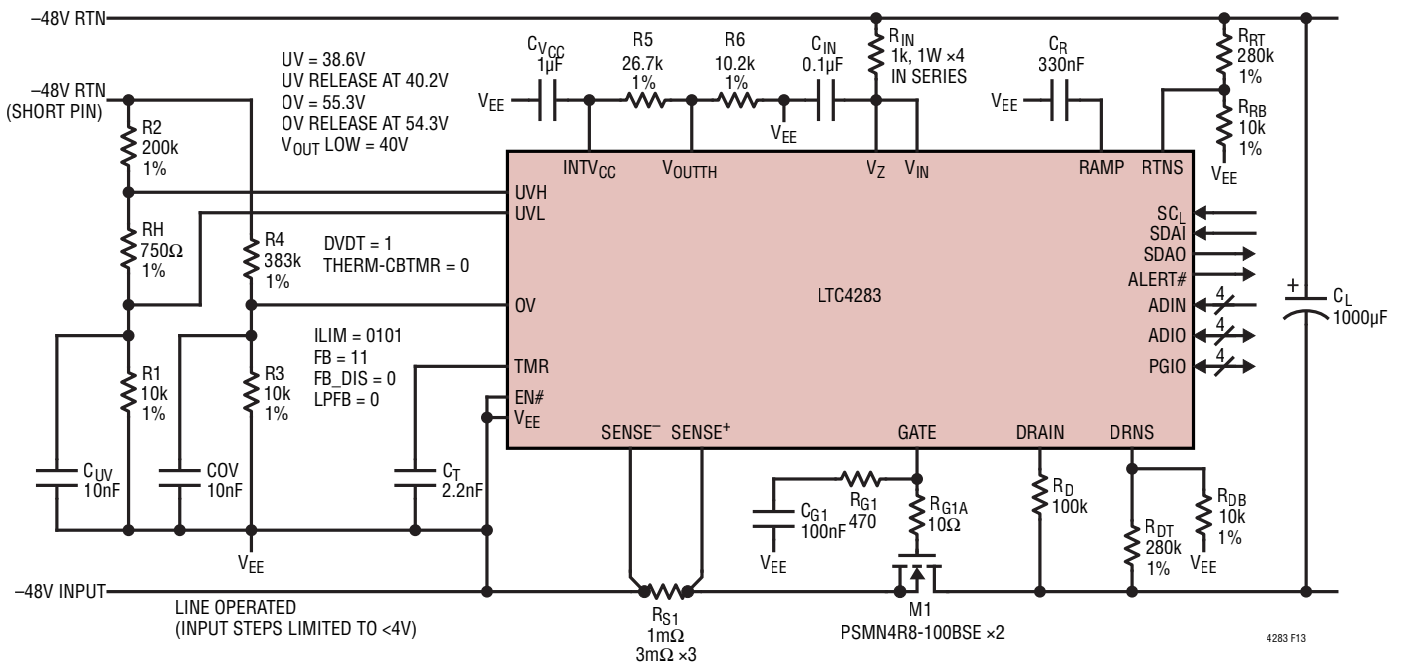

Figure 13. –48V/800W Hot Swap Controller with dV/dt Inrush Control
The second example is a line operated –48V system with supply tolerance of 10% (–43.2V to –52.8V) and maximum load power of 800W as shown in Figure 13. The load capacitance is specified as $C_L = 1000\mu\text{F}$.
voltage can be obtained with a resistive divider between INTV_{CC} (5V) and V_{EE}. The divider ratio is 5V/1.379V = 3.63. A divider of 26.7k and 10.2k as shown Figure 13 gives a close enough ratio of 3.62.
Although it is possible to use a single, four-resistor (or three-resistor if UVH and UVL connected together) divider as shown in Example 1, Step 7, two independent dividers with 2 (OV) or 2 to 3 (UV) resistors in each divider make it easier to make non-interactive changes at a later time. The two dividers as shown in Figure 13 gives UV shutdown at 38.6V, UV release at 40.2V, OV shutdown at 55.3V and OV release at 54.3V, which covers the full input voltage range of this example. 10nF capacitors filter out noises on UVL and OV.